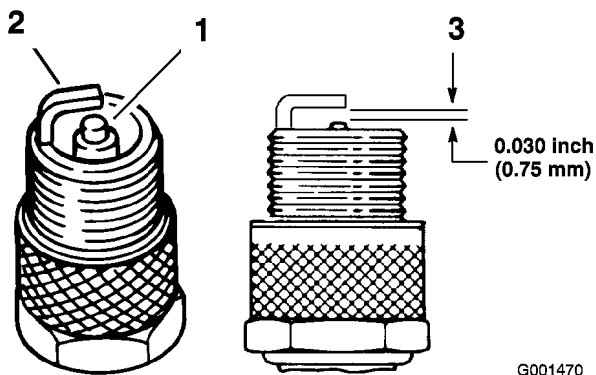

Figure 37
1. Look at the center of the spark plugs (Figure 37). If you see light brown or gray on the insulator, the engine is operating properly. A black coating on the insulator usually means that the air cleaner is dirty.
3. Check the gap between the center and side electrodes (Figure 37). Bend the side electrode (Figure 37) if the gap is not correct.
3. Connect the wires to the spark plugs (Figure 37).